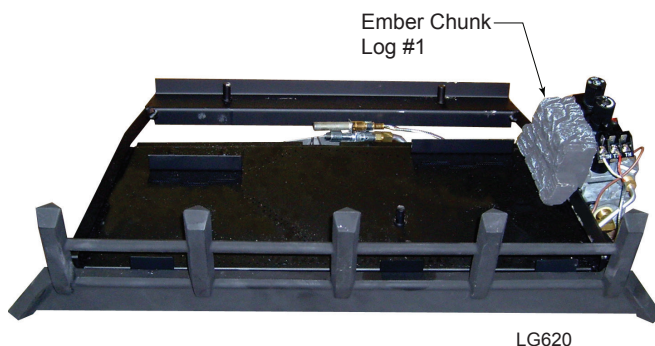

Figure 21 -
1. Place the #1 log (the "chunk") on the grate bar right side of the burner adjacent to the controls. *Figure 21*
2. Place front right log (#2) on right pin located on burner and right grate bar. *Figure 21.* slide Log #1 forward so that it is tight against log #2.